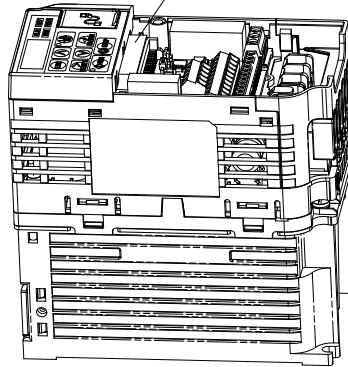

**Figure 7.9 Terminal Board Replacement**
1. Replace the removable terminal block on the drive according to Figure 7.9